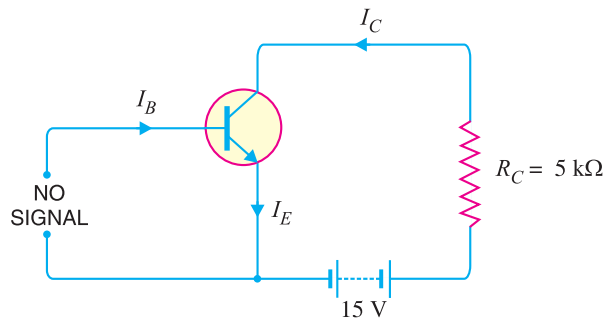

Fig. 8.69
7. For the circuit shown in Fig. 8.69, draw the d.c. load line.